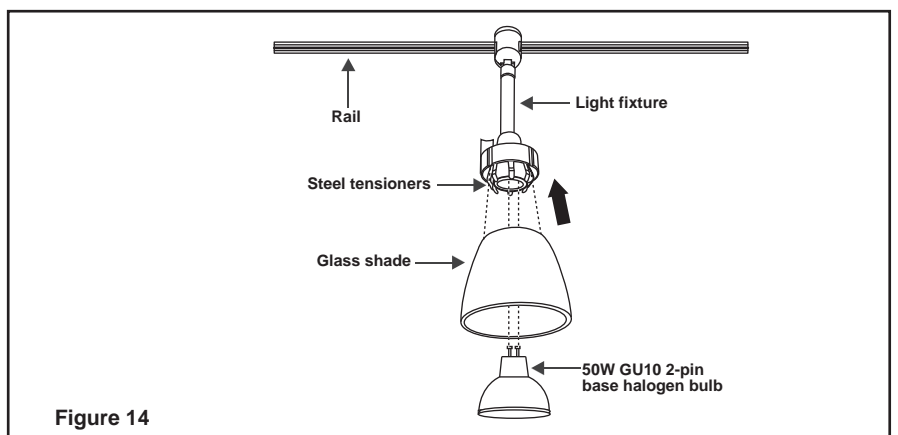

Figure 14
2. Gently slide the glass shade over the steel tensioners. Make sure the glass shade is fully inserted into the socket for a secure fit. Repeat for the remaining glass shades. (NOTE: To remove the glass shades, gently slide the shade partially from the socket.) (Fig. 14)